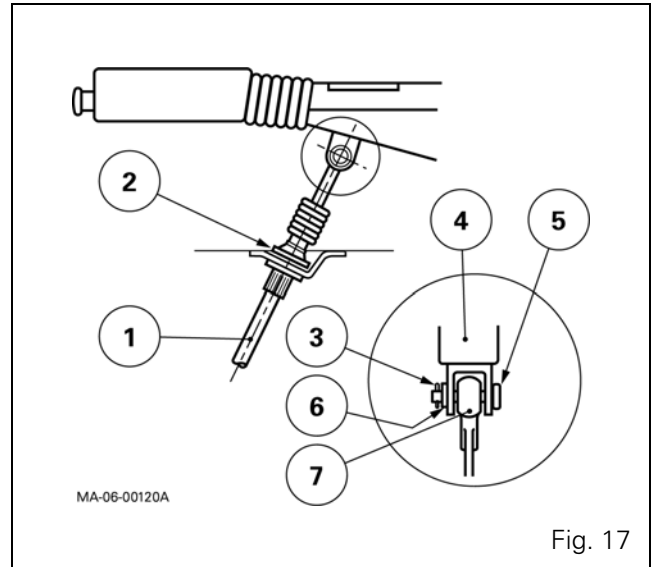

Fig. 17
67. Introduce the cable (1) from below towards the cab interior and fasten with the clip (2) (Fig. 17).
68. Fix the clevis (7) on the brake lever (4) with the pin (5), the washer (6) and the pin (3) (Fig. 17).
69. Fit the sheath end (2) in the clamp (1) (Fig. 17).
70. Attach the end of the cable (7) to the lever (6) (Fig. 17).
71. Place the handbrake lever in the released position. Adjust imperatively to obtain a distance of $315 \text{ mm} \pm 12 \text{ mm}$ between the nut (5) and the cable end pin (7) (Fig. 17).
72. Tighten the locknut (3) on the washer (4) (Fig. 17).